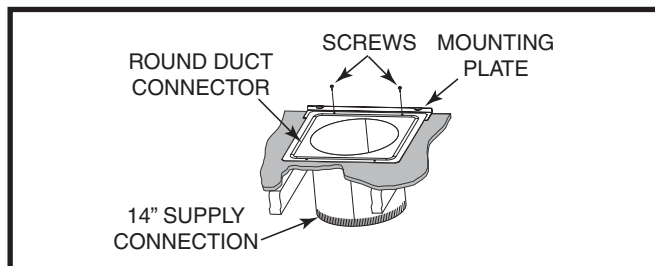

Figure 11. Round Duct Connector Installed
3. Install the mounting plate under the back side of the duct connector. See Figure 11. **NOTE:** Align the screw holes in both components.